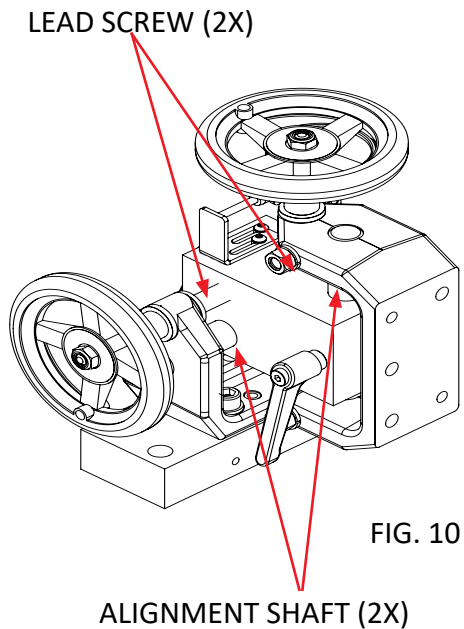

FIG. 10
3. Wipe and re-lube with never-seez, the vertical and horizontal alignment shafts and lead screws, every six months. See FIG. 10.